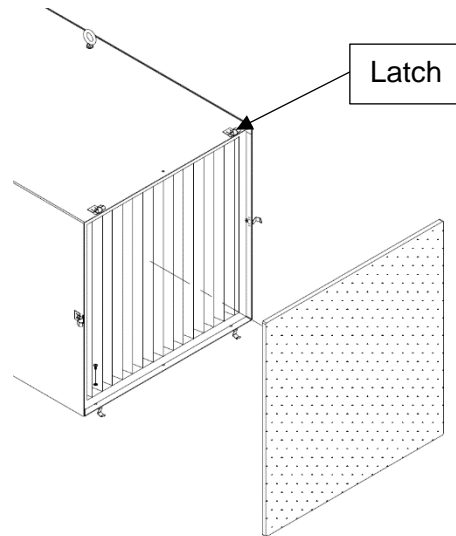

FIG. 5
**NOTE:** For units equipped with the optional Scrim Pre-Filter, remove the scrim pre-filter by disengaging the latches (See **FIG. 5**).